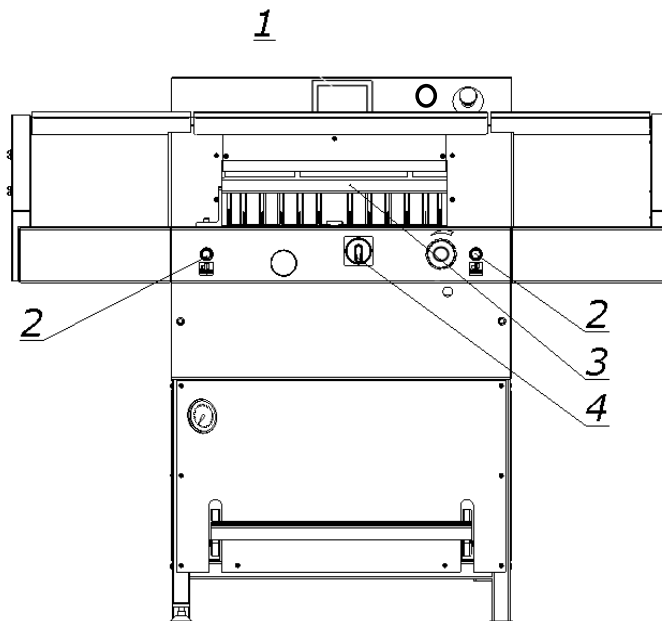

Figure 20.
8.1.1.1 Select the "Change knife" function on the touchscreen (Fig.20)
8.1.1.2 Pressing the push buttons, 2 (fig.20) at the same time, start the cutting cycle. The knife, 3, is held in the lower position.
8.1.1.3. Turn off the power supply of the electrical system by turning the main switch knob 4 (fig.20) to the "0" position